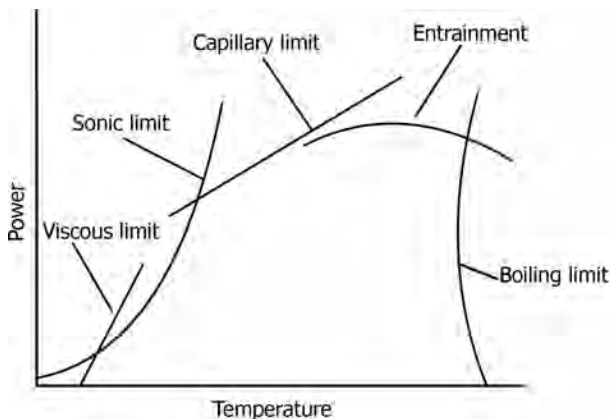

FIGURE 13.24 Heat pipe performance curves.
- The ranges of different limits are illustrated qualitatively in Figure 13.24.